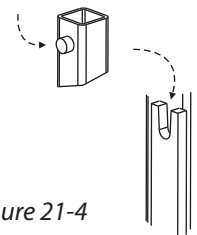

Figure 21-4
17. Attach platform by placing platform's upright pins into u-shaped bracket on tower. [Figure 21-4]